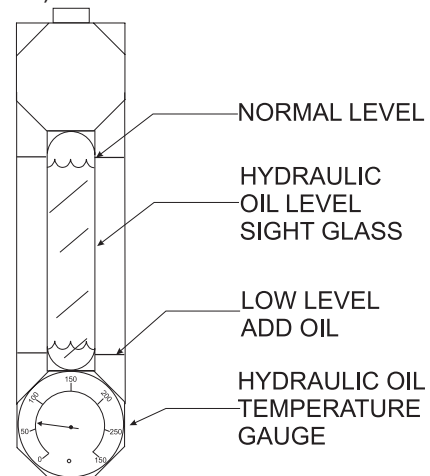

Figure 13. Hydraulic Oil Sight Glass
- Determine if the hydraulic oil level is low by observing the level of the oil in the **Hydraulic Oil Sight Glass** (Figure 13).